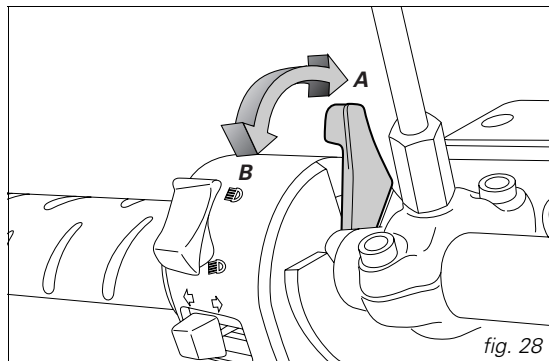

fig. 28
2) Move the cold start lever to the position (B, fig. 28).
5) As the engine warms up, move the cold start lever gradually towards the vertical position (A, fig. 28). Once fully warm, the engine should hold idling rpm with the cold start shut down.